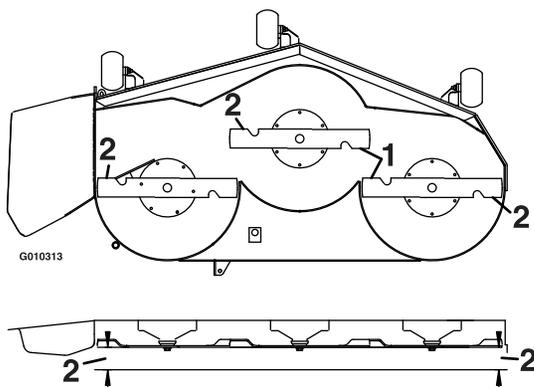

Figure 65
6. Measure between the outside cutting edges and the flat surface (Figure 65). If both measurements are not within 3/16 inch (5 mm), an adjustment is required; continue with this procedure.
- Carefully rotate the blades side to side (Figure 65).